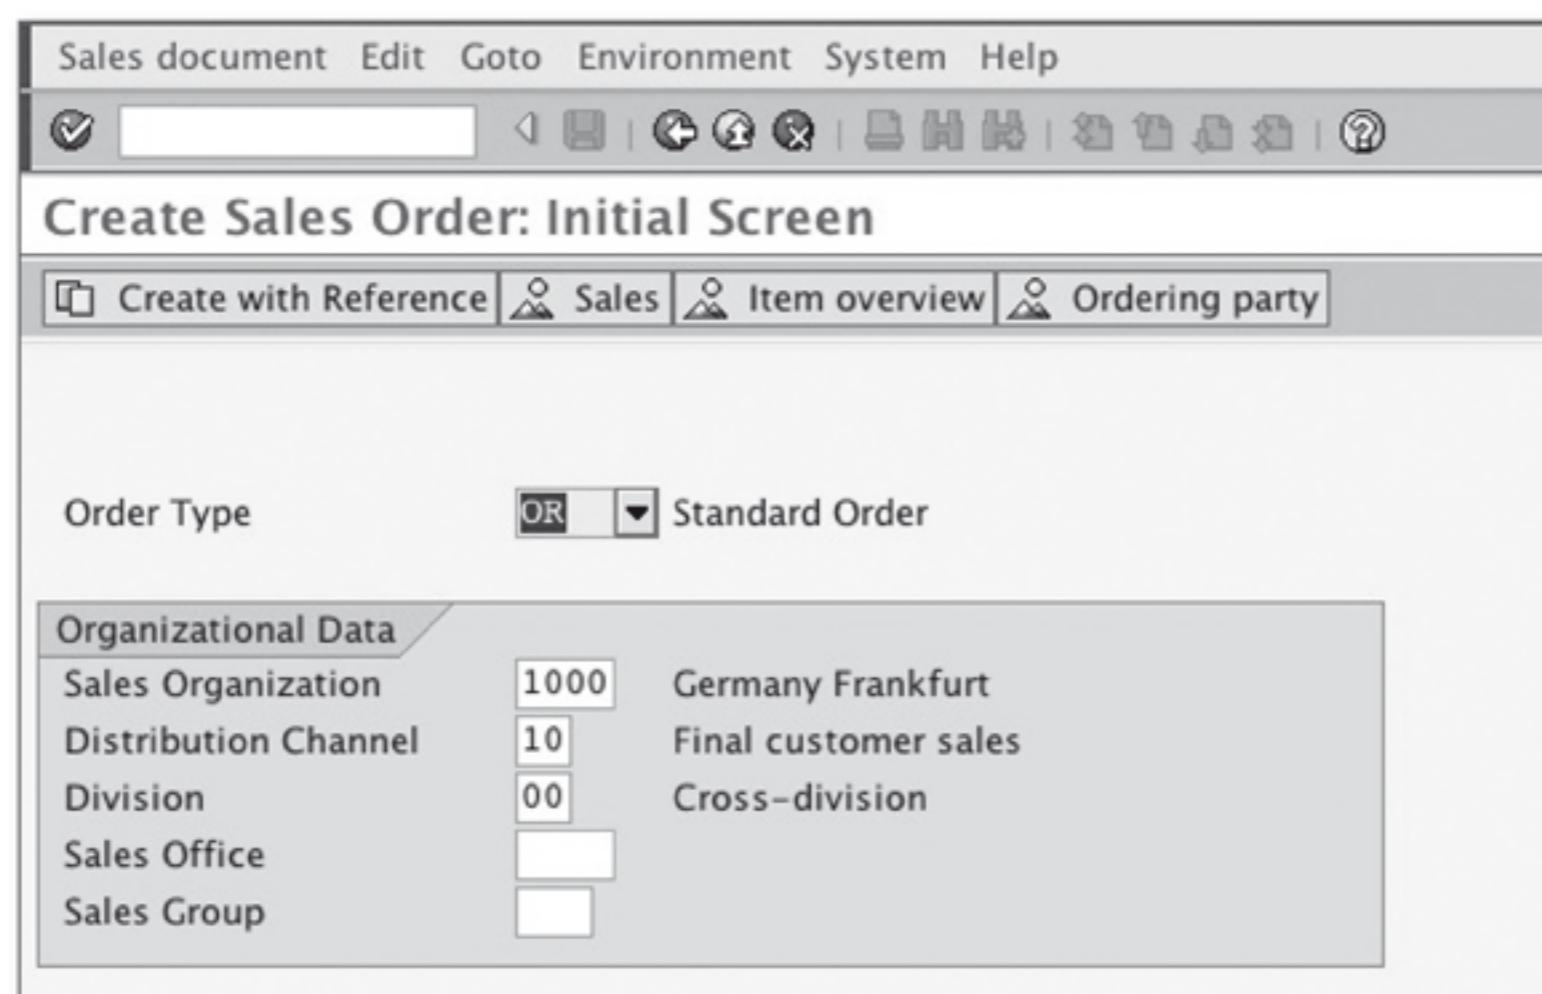

Figure 3.12 Create Sales Order: Initial Screen – Item Proposal Sample
1. On the Create Sales Order: Initial Screen, enter the sales order document type (i.e., OR – Standard Order), fill in your Sales Organization data, and press **Enter**. See Figure 3.12 for an example.